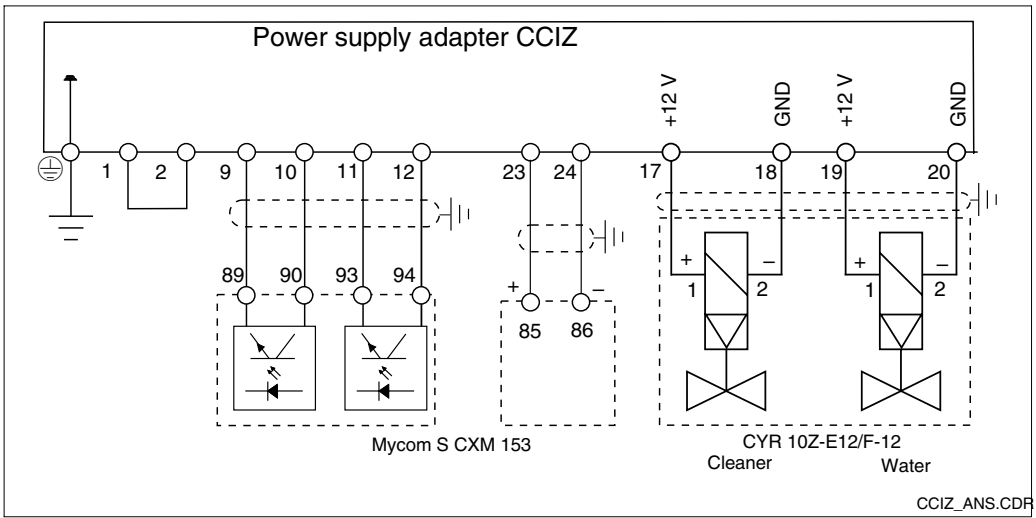

Bild 3.16 Connection of ChemoClean CYR 10Z in Ex area combined with Mycom S and CCIZ
- Connect cable to the plug as shown in fig. 3.16.